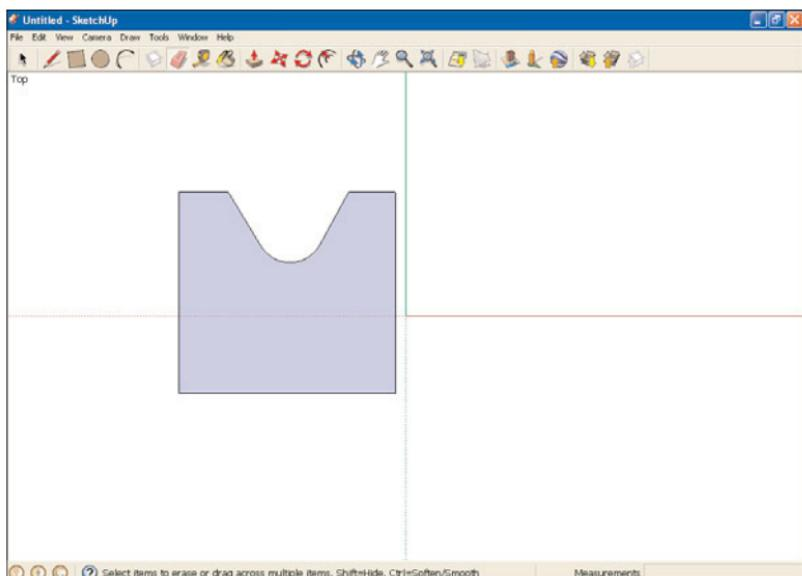

FIGURE 4.4 The shape now with a rounded arc.
Then you could use the Eraser tool to erase the unneeded acute angle, as shown in Figure 4.4.
9. Click the two line segments inside the shape that formed the acute angle to erase them. This gives you Figure 4.4.